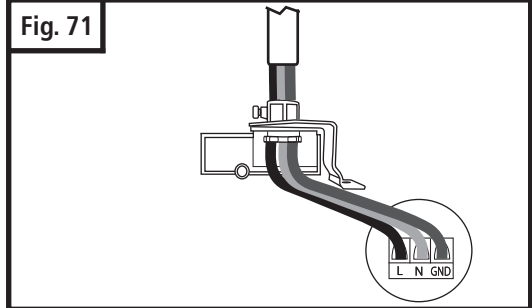

Fig. 72
- Remove screw from transformer module cover plate. Break cover plate as shown in Fig. 72. Remove and save chassis screw.